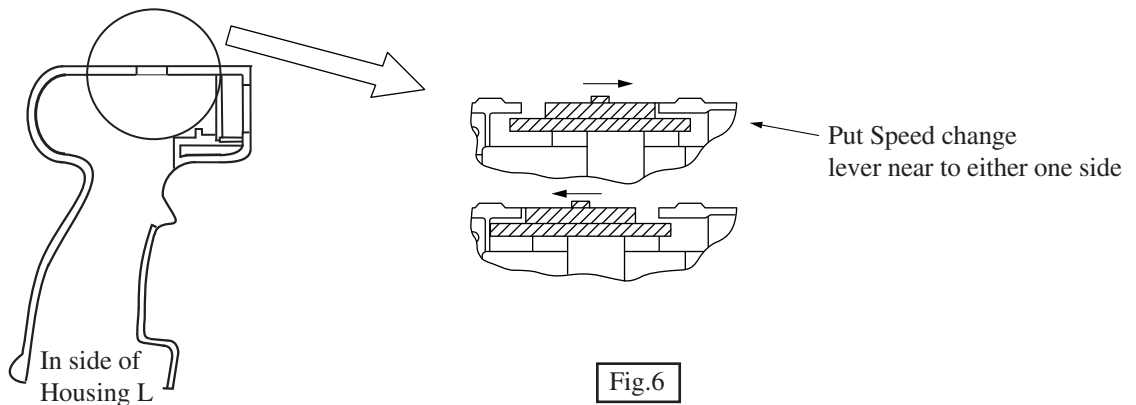

Fig.6
1) When attaching a unit of gear assembly and motor, etc. to housing L, place speed change lever in the position as shown in Fig. 6.